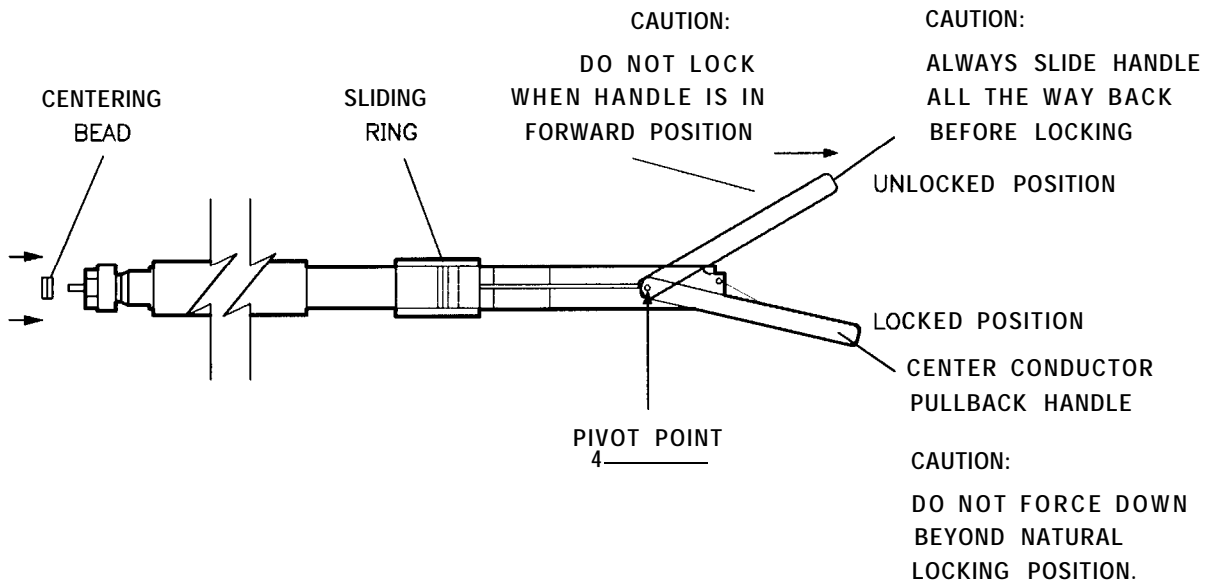

Figure 4-5. Gaging the Sliding Load
2. See Figure 4-5. Remove the protective end cap from the sliding load. Release the center conductor pullback mechanism by raising the handle to the unlocked position. Carefully move the handle toward the connector end of the sliding load. The center conductor will extend beyond the end of the connector. With the sliding ring pulled back approximately 0.5 inch, install a centering bead in the connector end of the sliding load.
CAUTION To avoid damage, always move the center conductor pullback handle back as shown in Figure 4-5 before unlocking the handle. Do not press the handle past the locked position.
5. Move the center conductor pullback handle back and then down into its locked position as shown in Figure 4-5.
11. Refer to Figure 4-5. Carefully remove the centering bead from the sliding load. If the centering bead does not come out of the sliding load easily, lift the center conductor pullback and grasp the pivot point with thumb and forefinger. Move the pivot point of the center conductor pullback toward the connector end of the sliding load to extend the center conductor. Remove the centering bead while holding the center conductor pullback toward the connector end of the sliding load.